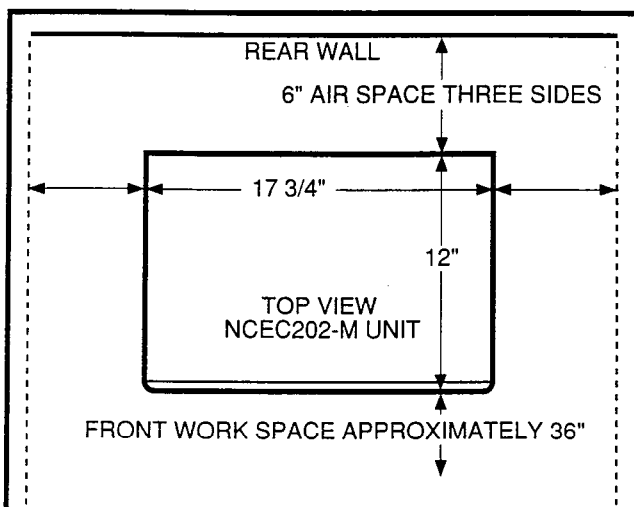

FIGURE 3-1—PERCEPTION_e
3.00 The minimum floor and maintenance space required for installation of each of the two equipment cabinets is shown in Figures 3-1 and 3-2.